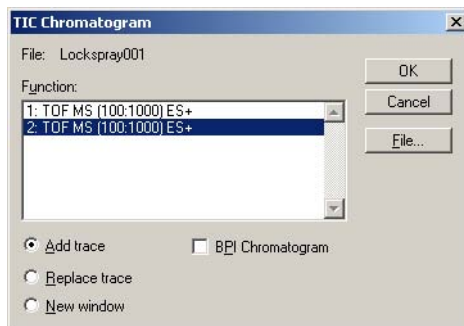

Figure 4-4 TIC Chromatogram Dialog Box
11. Click  to start the acquisition. This will open the Start Sample List Run dialog box (Figure 4-4). Leave the settings as they are and click OK.
- b. Select Display > TIC to open the TIC Chromatogram dialog box (Figure 4-4).